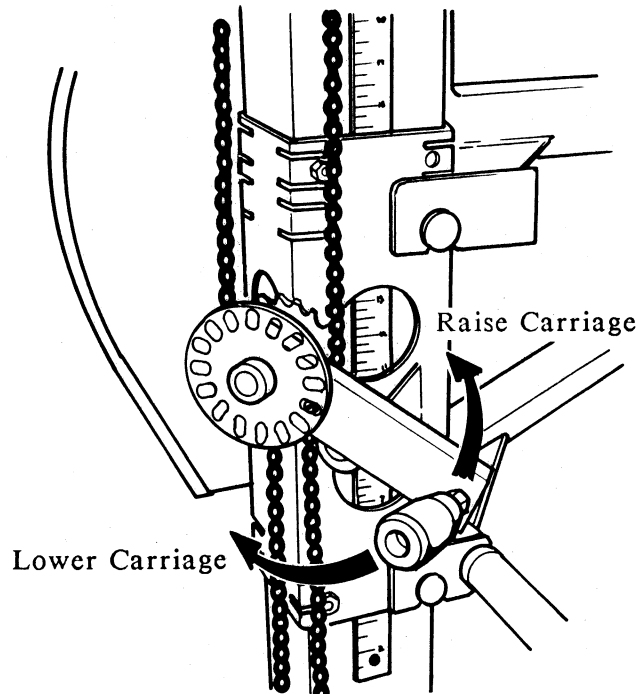

FIGURE 3
The cutting head is raised and lowered by the hand crank on the front of the carriage assembly (See Figure 3). There are 16 holes in the face plate of the up/down crank assembly. Each hole represents an adjustment in the blade height of 1/16 of an inch. One full turn of the crank is one (1) inch.